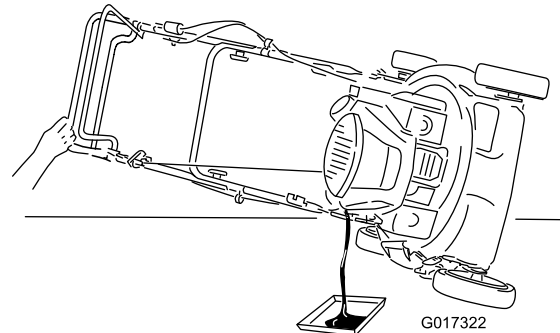

Figure 17
- Tip the machine onto its side, with the air filter up, then remove the dipstick to drain the used oil out through the oil-fill tube (Figure 17).